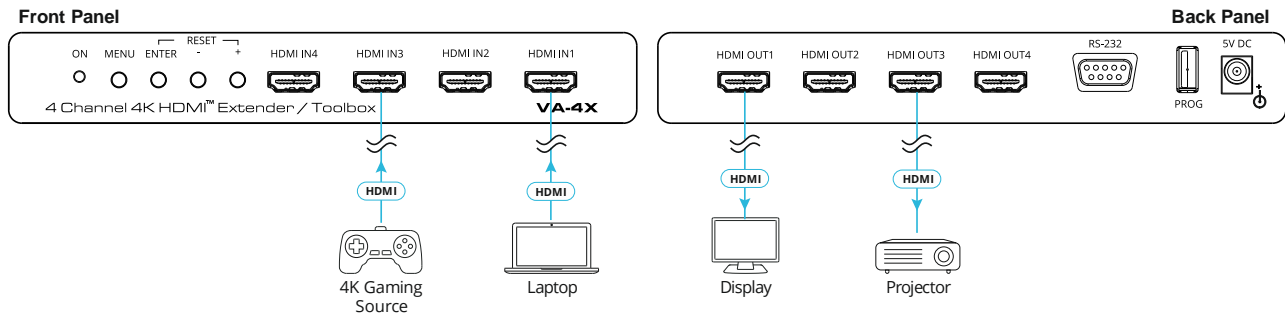

Figure 2: Connecting to the VA-4X Rear Panel
To connect the VA-4X as illustrated in the example in Figure 2:
3. Connect the power adapter to the **VA-4X** and to the mains electricity (not shown in Figure 2).